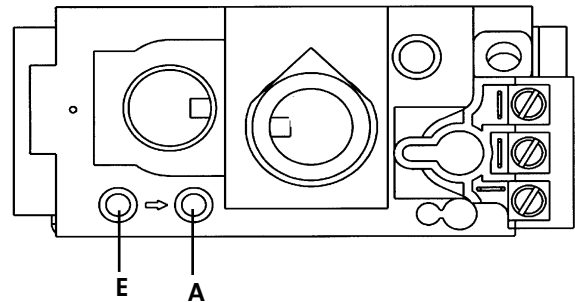

Figure 24. Pressure test points.
**Pressure Test:** Attach a manometer to the appropriate test point on the valve. See fig. 24. The gauge connections are located on the front of the valve under the On/Off/Pilot- knob. Gauge connections are identified by: